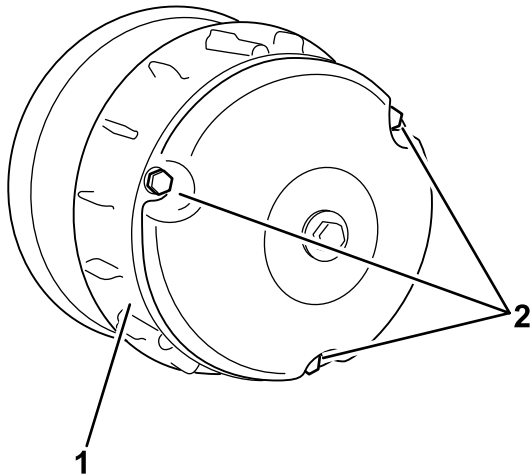

Figure 50
- Remove the 3 bolts securing the cover to the clutch, and remove the cover (Figure 50).
- Install the clutch cover and secure it with the 3 bolts (Figure 50) that you removed in 1.